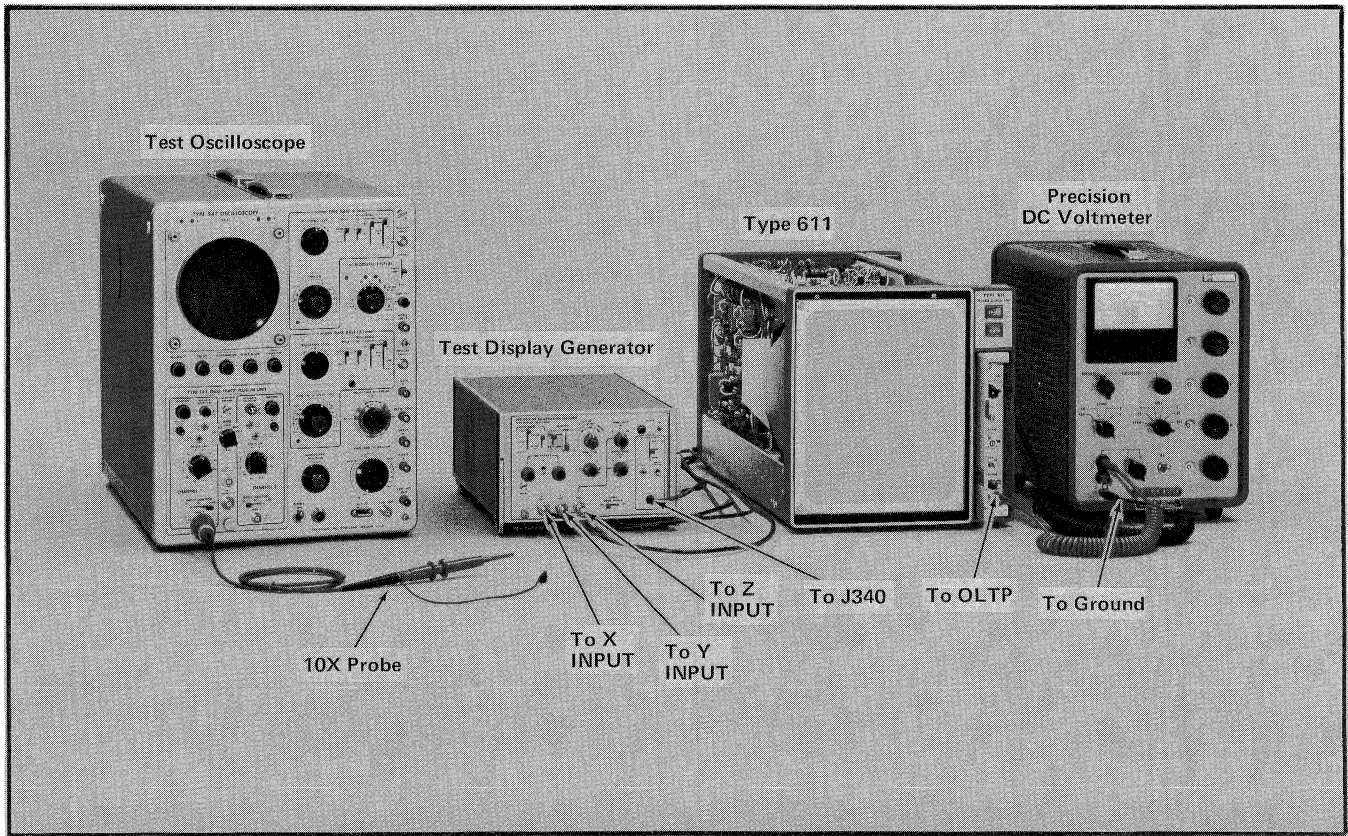

Fig. 5-8. Equipment required for Storage calibration steps. Location of step 11 test point is shown.
11. Check or Adjust OPERATING LEVEL (R531) ①
- a. Test setup is shown in Fig. 5-8.
- c. Connect a precision DC voltmeter between the front panel OLTP (Operating Level Test Point) and chassis ground (Fig. 5-8). Use a voltmeter range of at least +300 V.